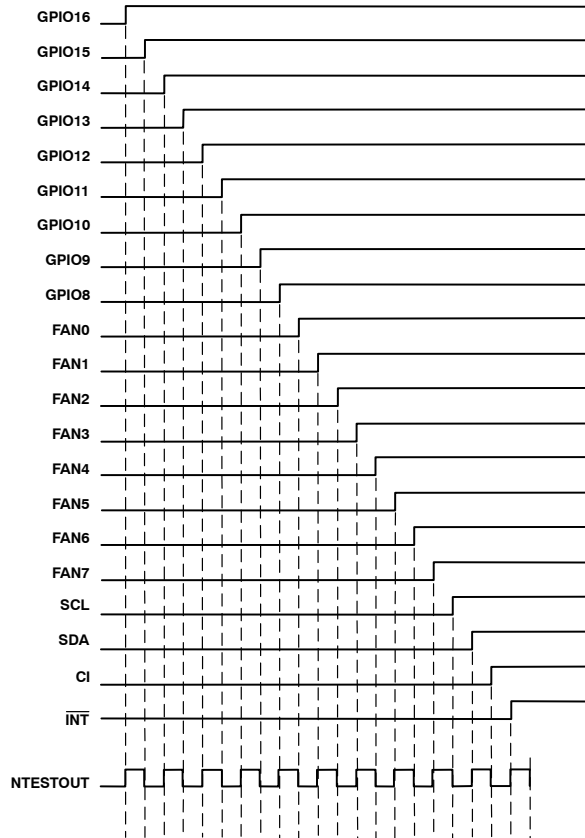

Figure 56. NAND Tree Test Taking Inputs High in Turn
1. Start with all inputs low and take them high in turn, starting with the input nearest to NTEST_OUT (GPIO16/ $\overline{\text{THERM}}$) and working back up the tree to the input furthest from NTEST_OUT ($\overline{\text{INT}}$). This should give the characteristic output pattern shown in Figure 56, with NTEST_OUT toggling each time an input is taken high.